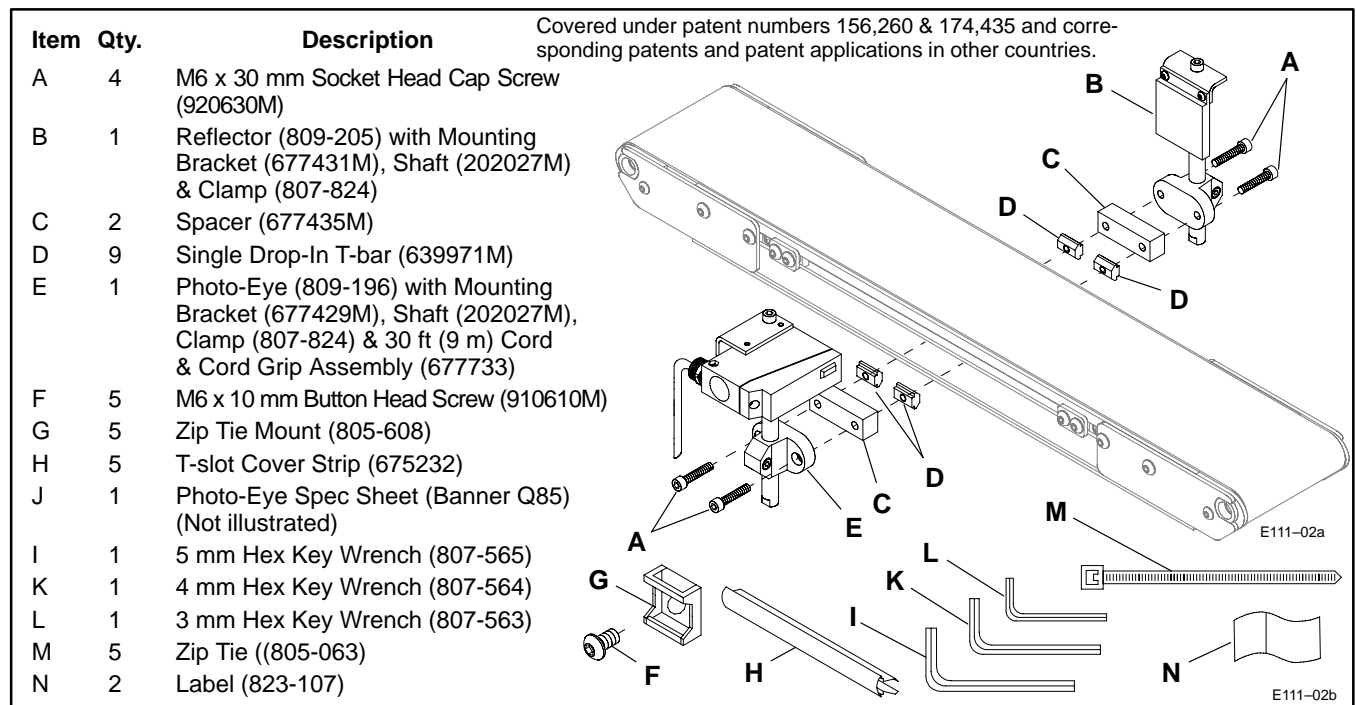

Figure 2: Photo-Eye Kit (75-33) Components
2. Refer to Figure 2 and select the desired location and mount the Photo-Eye and Reflector.